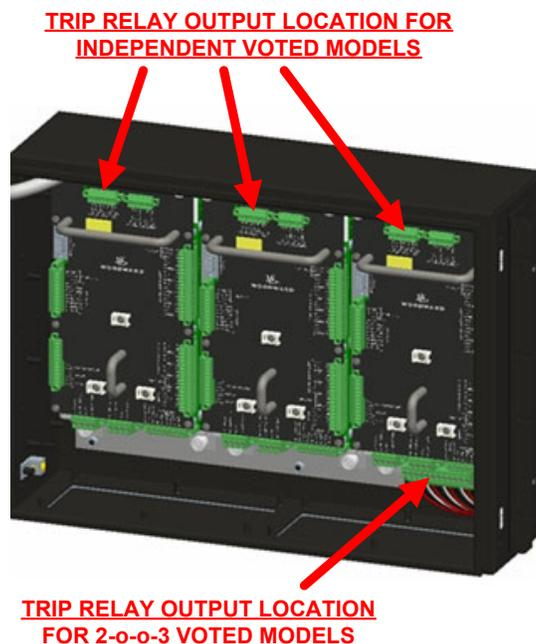
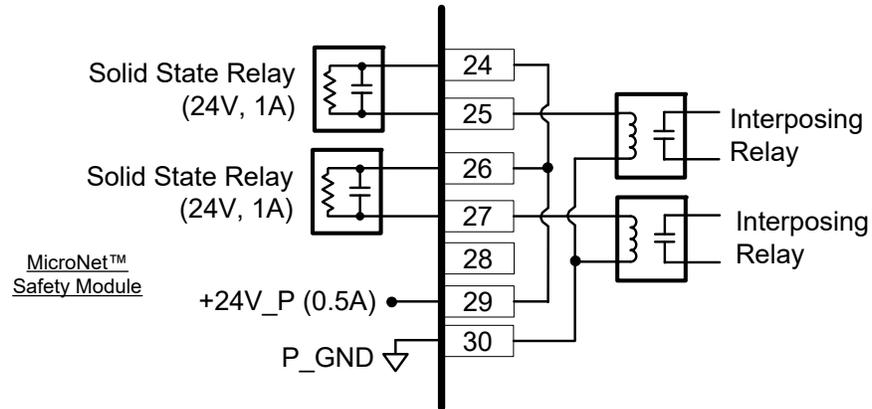
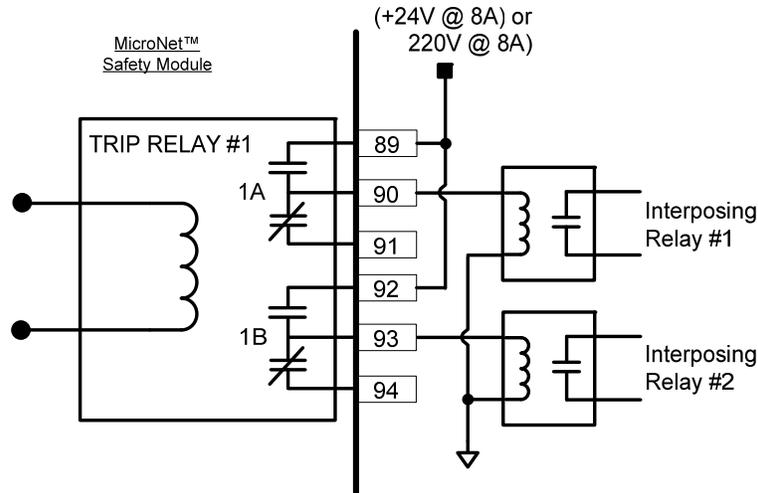

Figure 2-16a. Example Trip Relay Output Wiring
Figure 2-16b. Example Trip Relay Wiring (per Module) (Independent Trip Relay) (Internal Supply)
Figure 2-16d. Example Trip Relay Wiring (Voted Trip Relay Models)
Two basic MicroNet Safety Module model variations are available depending on the required trip system architecture: the “Independent Trip Relay” model and the “Voted Trip Relay” model. Either version also has three programmable Relay Outputs per module. Refer to Figure 2-16a for the general locations for Trip Relay Output wiring in the two models.
Each MicroNet Safety Module “Independent Trip Relay” model has three independent modules (A, B, C), and each of these modules has five solid-state relay outputs. Each of the five solid-state relays have normally open type contacts and are rated for 24 Vdc @ 1 A. Two of these relay outputs are dedicated as redundant trip signal outputs, and the other three relay outputs are user-programmable which can be programmed to function independently as required. The Independent Trip Relay MicroNet Safety Module models are designed so each set of trip relays drive one of three external independent trip solenoids, typically used in 2-o-o-3 voted trip block assemblies. Refer to Figure 2-16a for relay terminal location and Figure 2-16b or c for wiring information.
**Note:** with the “Voted Trip Relay” MicroNet Safety Module models, the two solid-state trip relays located on each module (A, B, C) are not available for use or connection. Each module’s trip signal relays are connected internally to the MicroNet Safety Module in a 2-o-o-3 voted fashion to drive two redundant Form-C trip relays on the unit’s 2-out-of-3 voted relay module. These two redundant relays have normally open and normally closed output contacts rated for 220 Vac @ 8 A or 24 Vdc @ 8 A. Refer to Figure 2-16a for relay terminal location and Figure 2-16d for wiring information.